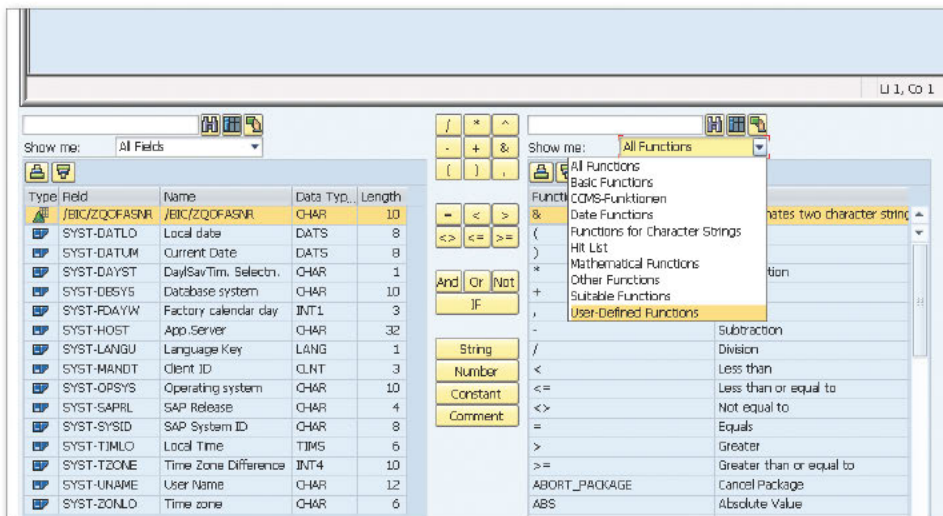

Figure 4 Creating a Formula in the Transformations
6. Activate the Get method by clicking on the ACTIVATE button at the top of the screen, and then go back one screen and activate the implementation. You can now use the formula shown in Figure 4 in any of the transformations.
You can see this method under **USER-DEFINED FUNCTIONS** when creating a formula in a transformation as shown in Figure 4.